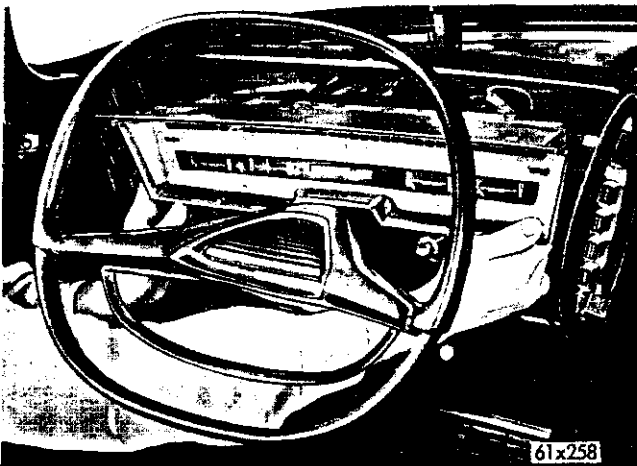

Fig. 123—Removing the Instrument Cluster Panel
(4) Remove the five screws securing the instrument cluster to the instrument panel. Carefully remove the instrument cluster (Fig. 123) by tilting the lower end of the cluster outward.